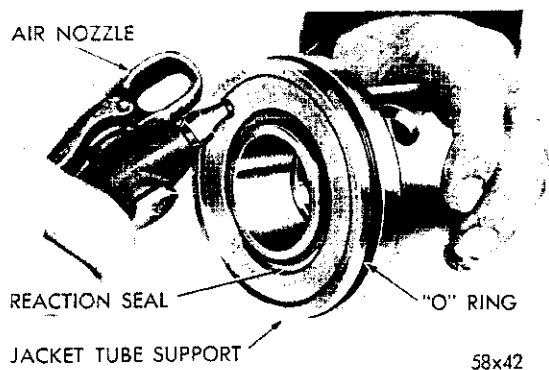

Fig. 36—Removing the Reaction Seal from the Jacket Support
(2) Remove the large "O" ring from the groove in the jacket support.
(3) Remove the reaction seal from the groove in the face of the jacket support with air pressure directed into the ferrule chamber (Fig. 36).
(4) Inspect all the grooves for burrs. Make sure the passage from the ferrule chamber to the upper reaction chamber is unobstructed.